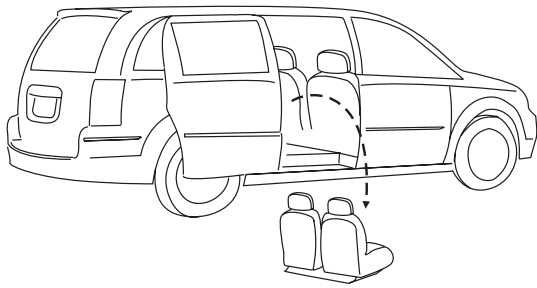

Figure 22-1
1. Remove 2nd Row Seating. [Figure 22-1]